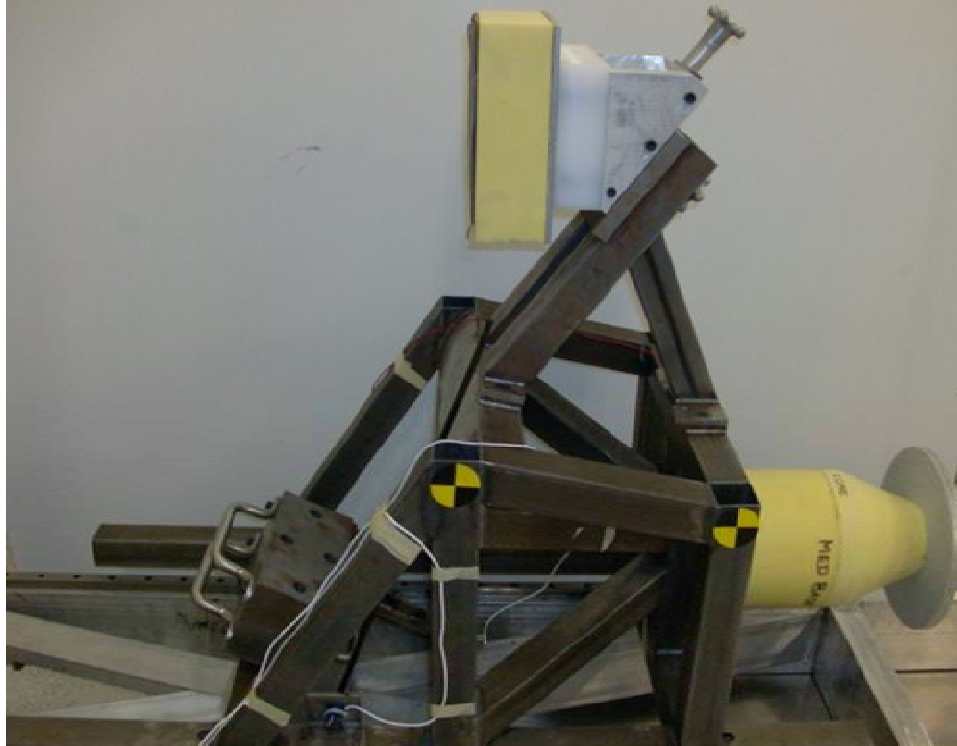

Figure 8 - BioRID Sled and Track Certification with Headrest Test Setup
- Attach Energy Transfer Device (ETD) to sled face. This ETD is different than the one used for the BioRID Sled and Track Certification without Headrest. Figure 8 shows the basic setup for the Sled and Track with Headrest test setup.